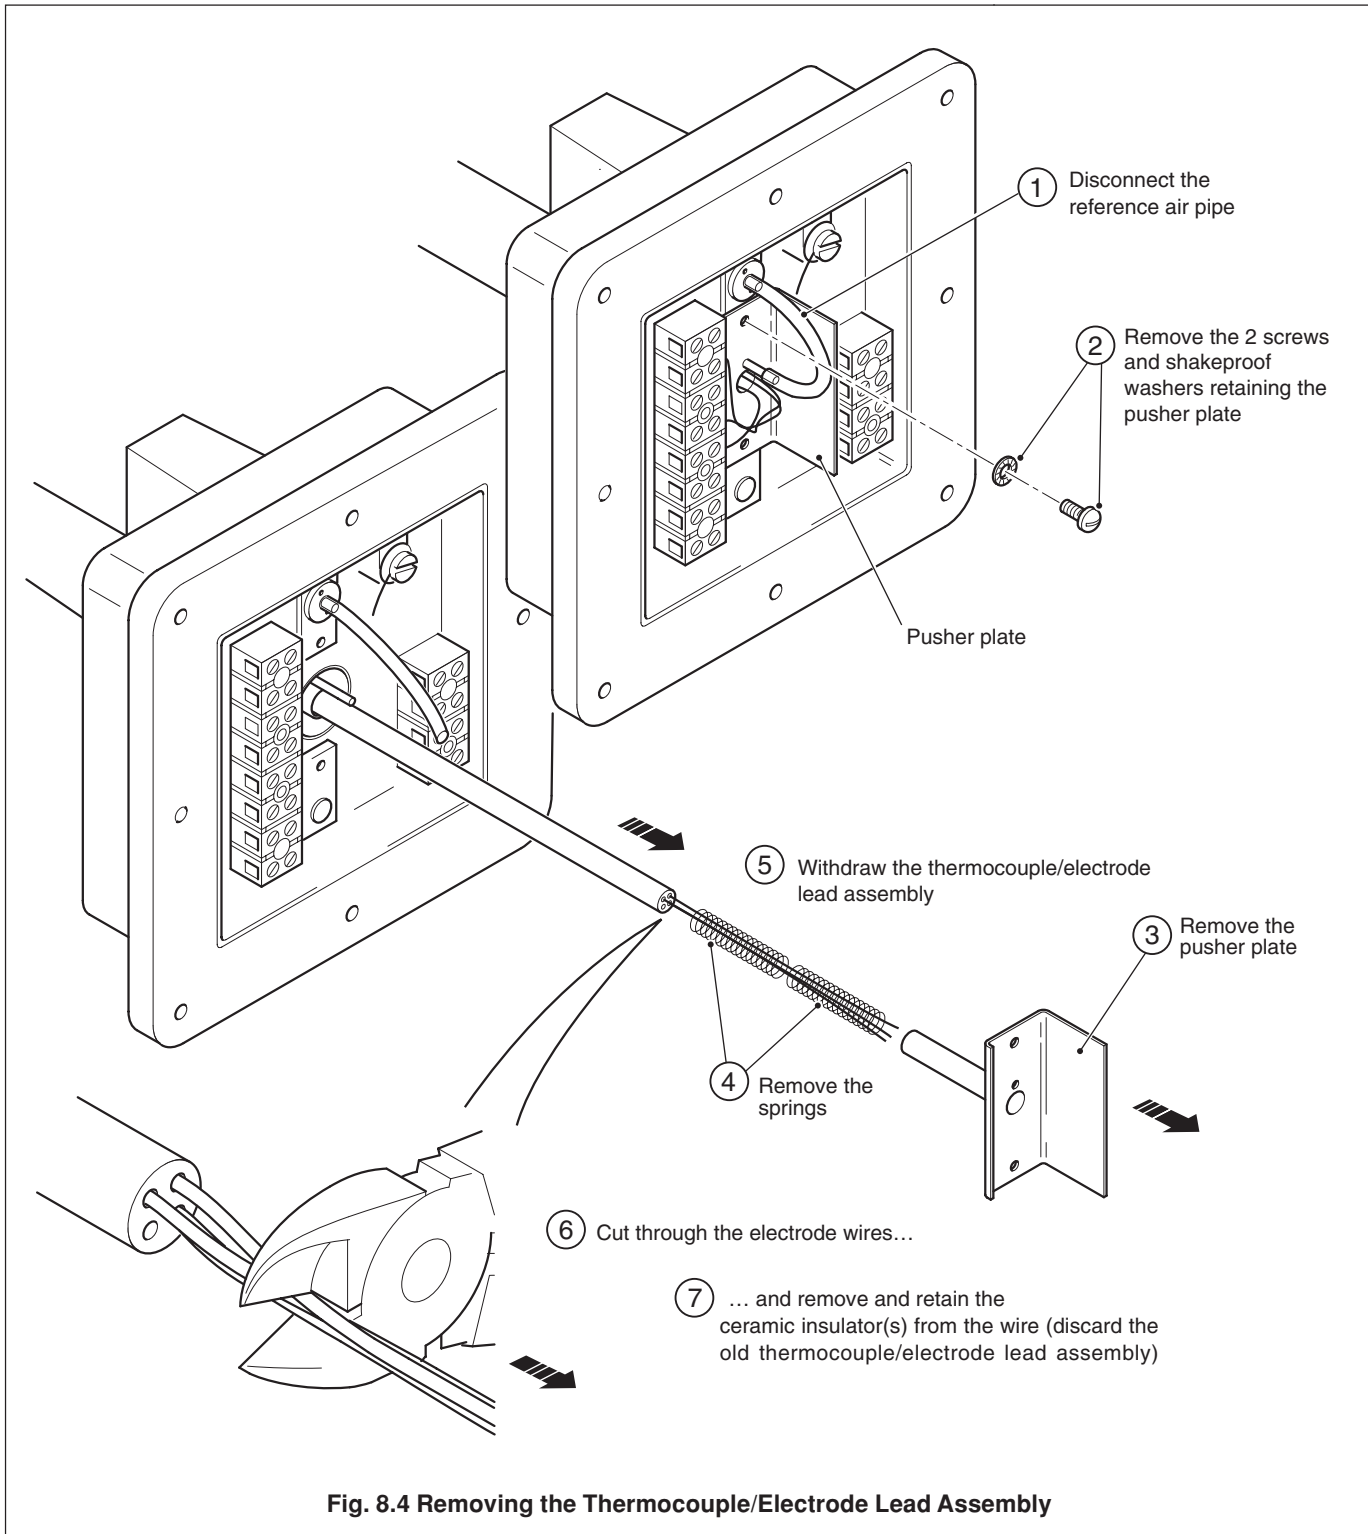

Fig. 8.4 Removing the Thermocouple/Electrode Lead Assembly
### 8.3.1 Removing the Thermocouple/Electrode Lead Assembly – Fig. 8.4
- c) Remove the thermocouple/electrode lead assembly as described in Fig. 8.4.